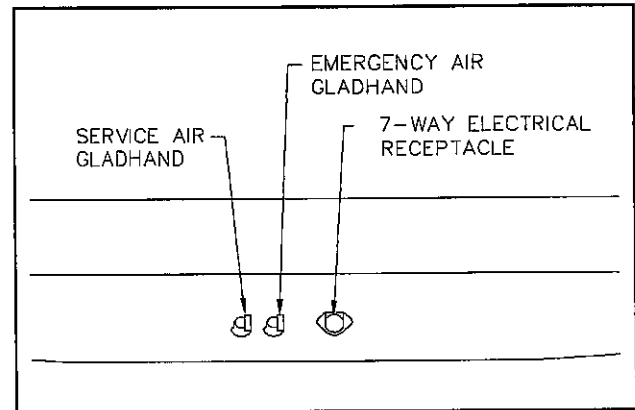

Fig. 3-1 Service Hookups (Front View)
**3-2.3** Connect the service and emergency air hoses of the towing vehicle to their respective gladhand on the front of the semitrailer. The gladhand connectors are fitted with dummy couplings to keep dirt and moisture out of the air lines. Disconnect the dummy couplings by turning them backwards one-quarter turn. They are attached to short chains to prevent loss. The towing vehicle's air hose couplings are then attached and locked to the appropriate gladhands; red emergency line to the gladhand with the "EMERGENCY" tag, and the blue service line to the gladhand with the "SERVICE" tag (see Fig. 3-1). Chock the trailer wheels before activating the semitrailer air supply valve in the towing vehicle. Set the trailer brakes.
**3-4.1** Connect the towing vehicle 7-way electrical plug to the electrical receptacle on the front of the semitrailer (see Fig. 3-1).